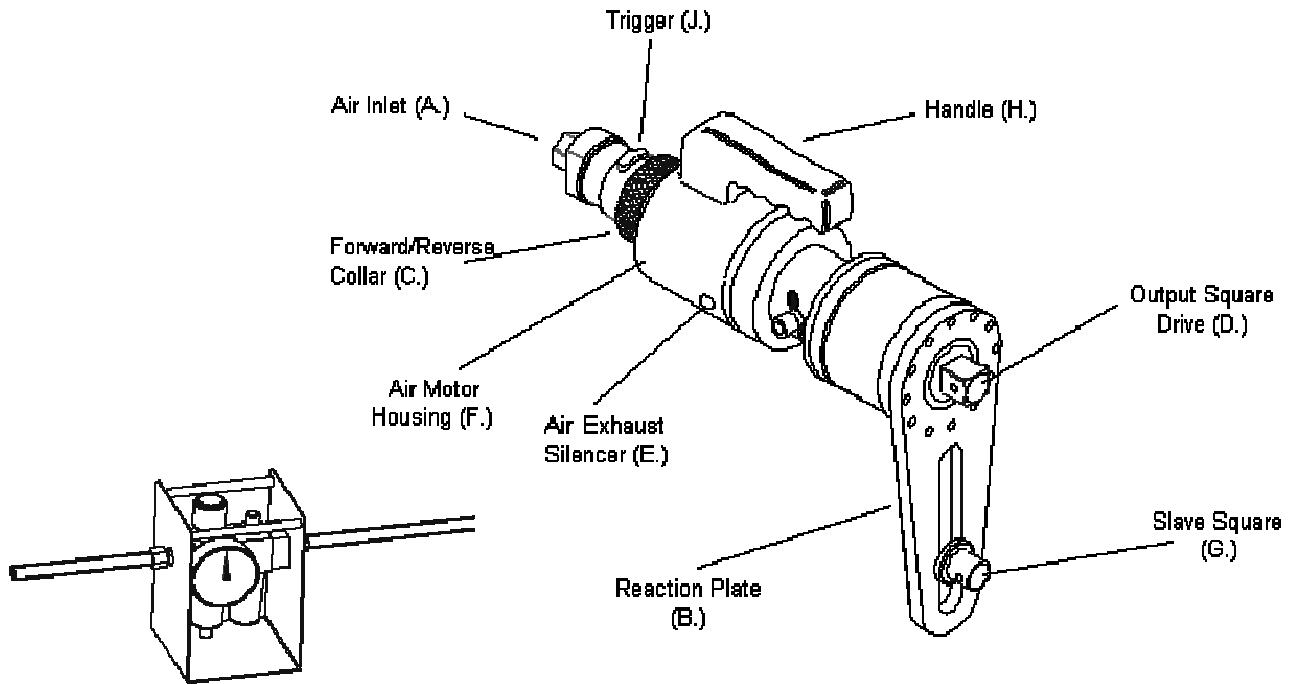

Figure 2. Tool Features
Fit lifting handle (where supplied) to top of the Air Motor Housing ('F' in figure 2.). Adjust the handle position so the tool can be held comfortably. Tighten the socket screws securely.
Fit reaction plate ('B' in Figure 2) to tool using bolts provided and torque to value specified on reaction arm. If no torque is specified follow table below.
5. Press and hold the trigger ('J' in Figure 2) and adjust the lubro control unit pressure until the correct figure is shown on the gauge.